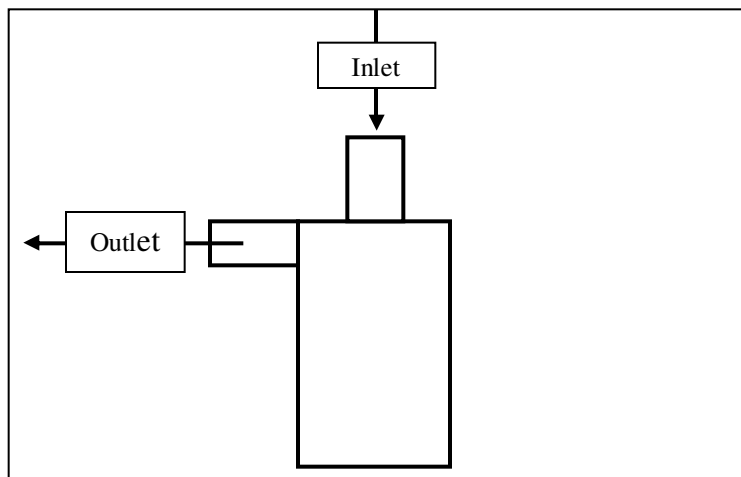

Figure 40: Coolant Pump, Vertical
- Vertical such that the inlet is above the pump body, see Figure 40.